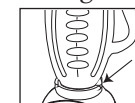

Fig3
5. Line up tabs of jar with tabs on blender base. Make sure the tab of the jar on the left side is in the back of the tab of the blender base and the tab of the jar on the right side is in front of the tab of the blender base. Make sure jar is seated into position. (Fig3)